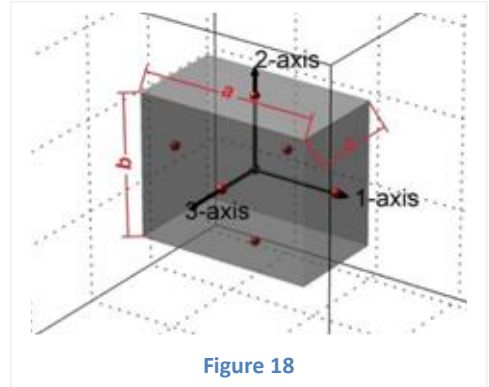

Figure 18
- 1) A rectangular cuboid with homogenous density and mass  $m$ . It is defined in body fixed coordinates as well as centered and aligned with the axes of this coordinate system. Its length along the 1-axis is given as  $a$ , along the 2-axis as  $b$ , and along the 3-axis as  $c$ . See Figure 18.
- 3) 6 particles of mass  $\frac{m}{6}$ , each of them situated in the center of a face of the cuboid of the first question. They are shown as red dots in Figure 18 and their coordinates are given as: